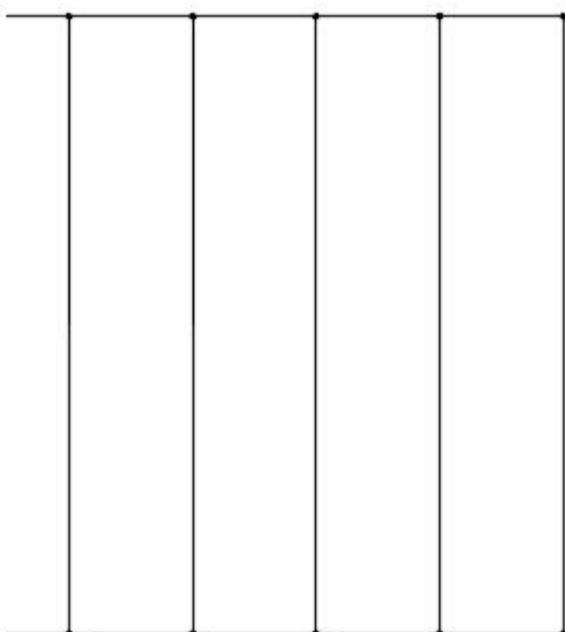

Figure-9. Ladders created
- Click in the drawing area to specify the last rung so that the ladders are displayed as shown in Figure-9.